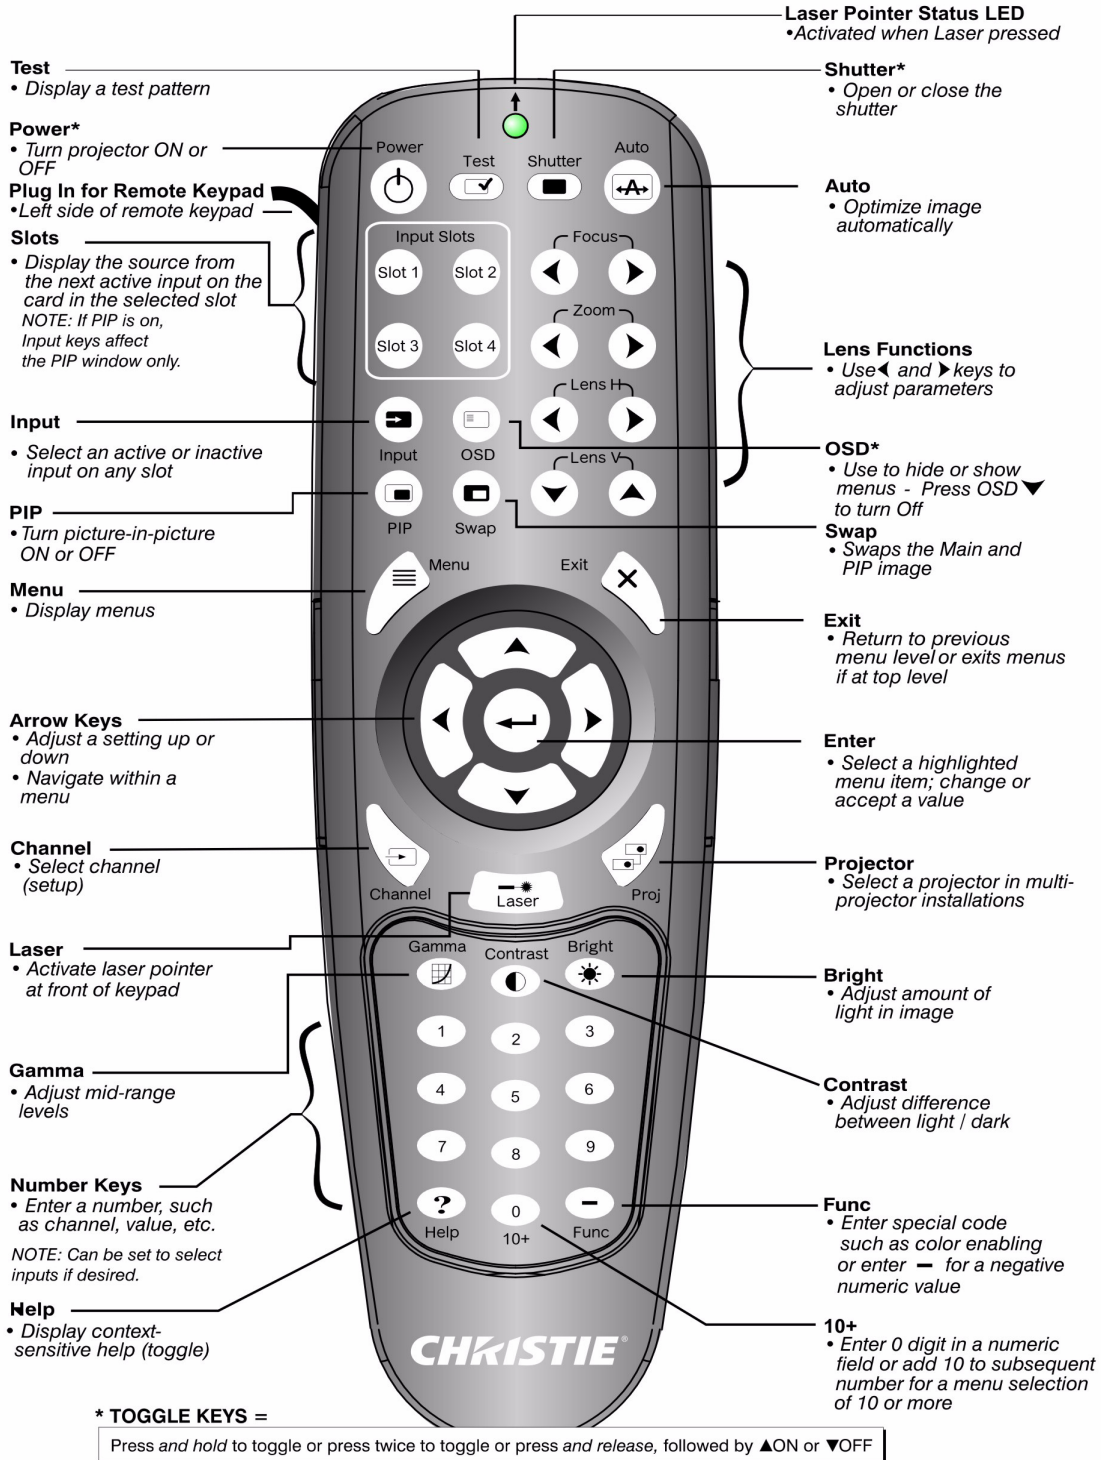

FIGURE 3-1 REMOTE KEYPAD
- **Remote Keypad** for wired or wireless control up to 25 feet (8m) away (includes cable for use as a wired remote). The remote keypad controls the projector by way of wireless communications from a battery-powered infrared (IR) transmitter. Use the remote keypad the same way you would use a remote keypad supplied with a TV or VCR. When pressing a function key, direct the keypad toward the projector's front or rear IR sensor. One of the two IR sensors on the projector will detect the signal and relay the commands for internal processing. A laser pointer is built into the remote keypad. See Figure 3-1 Remote Keypad.
- Press keys one-at-a-time; there are no simultaneous key combinations required. **NOTE:** Use POWER, SHUTTER, and OSD functions by doing one of the following: “press-and-hold” (2 seconds) or press twice quickly, followed by pressing either the UP ARROW KEY to switch on or the DOWN ARROW KEY to switch off once. See Figure 3-1 Remote Keypad.
Refer to Figure 3-1 Remote Keypad for the description of those keys provided for the remote keypad.
Specific keypad commands are explained, see Figure 3-1 Remote Keypad: